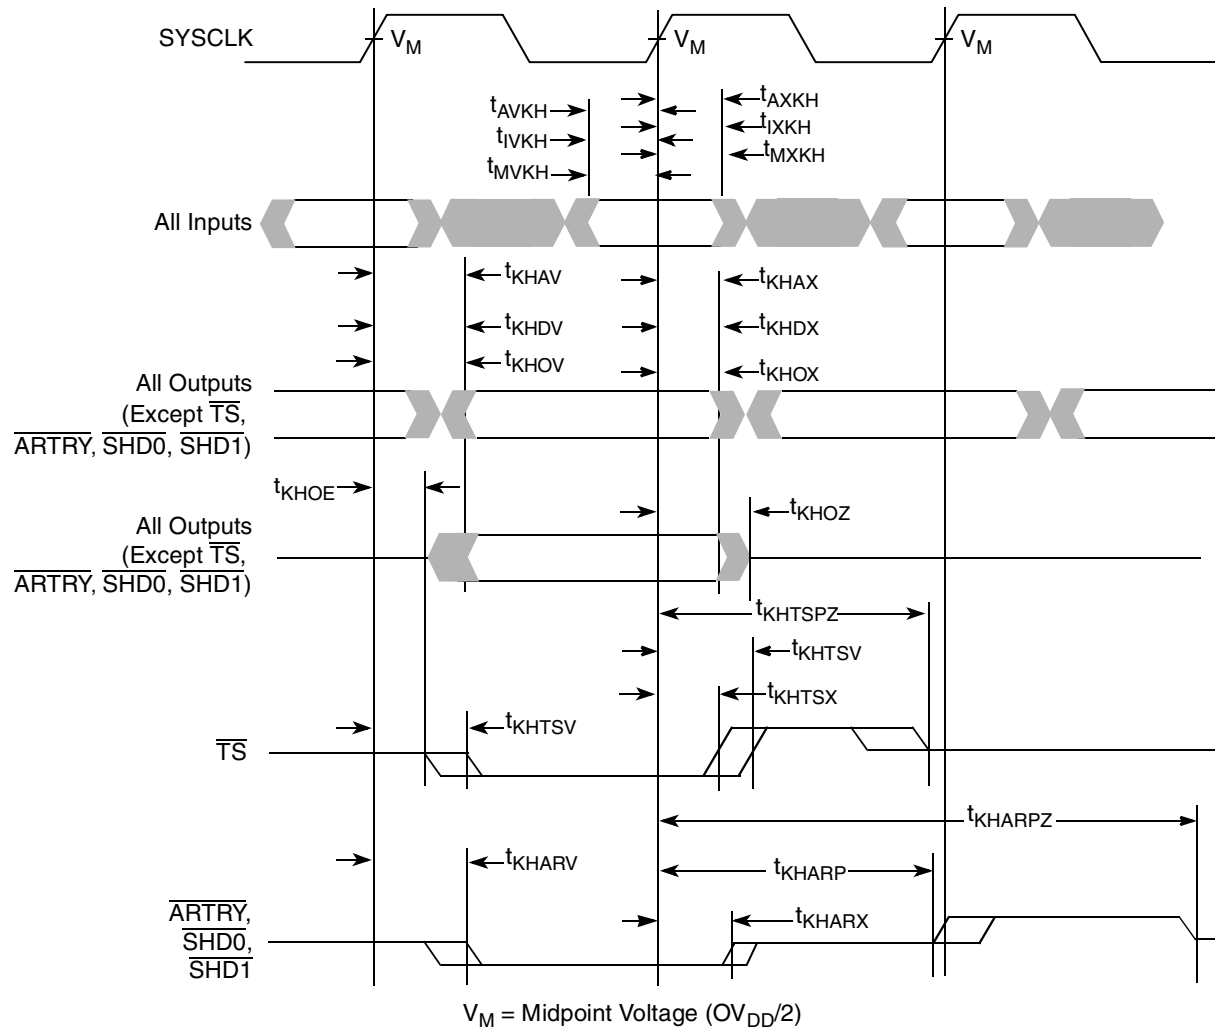

Figure 6. Input/Output Timing Diagram
- The symbology used for timing specifications herein follows the pattern of $t_{(signal)(state)(reference)(state)}$ for inputs and $t_{(reference)(state)(signal)(state)}$ for outputs. For example, t_{VKH} symbolizes the time input signals (I) reach the valid state (V) relative to the SYSCLK reference (K) going to the high (H) state or input setup time. And t_{KHOV} symbolizes the time from SYSCLK(K) going high (H) until outputs (O) are valid (V) or output valid time. Input hold time can be read as the time that the input signal (I) went invalid (X) with respect to the rising clock edge (KH) (note the position of the reference and its state for inputs) and output hold time can be read as the time from the rising edge (KH) until the output went invalid (OX).
- According to the bus protocol, \overline{TS} is driven only by the currently active bus master. It is asserted low and precharged high before returning to high impedance, as shown in Figure 6. The nominal precharge width for \overline{TS} is t_{SYSCLK} , that is, one clock period. Since no master can assert \overline{TS} on the following clock edge, there is no concern regarding contention with the precharge. Output valid and output hold timing is tested for the signal asserted. Output valid time is tested for precharge. The high-impedance behavior is guaranteed by design.
- According to the bus protocol, \overline{ARTRY} can be driven by multiple bus masters through the clock period immediately following \overline{AACK} . Bus contention is not an issue because any master asserting \overline{ARTRY} will be driving it low. Any master asserting it low in the first clock following \overline{AACK} will then go to high impedance for a fraction of a cycle, then negated for up to an entire cycle (crossing a bus cycle boundary) before being three-stated again. The nominal precharge width for \overline{ARTRY} is $1.0 t_{SYSCLK}$; that is, it should be high impedance as shown in Figure 6 before the first opportunity for another master to assert \overline{ARTRY} . Output valid and output hold timing is tested for the signal asserted. The high-impedance behavior is guaranteed by design.
Figure 6 provides the input/output timing diagram for the MPC7448.